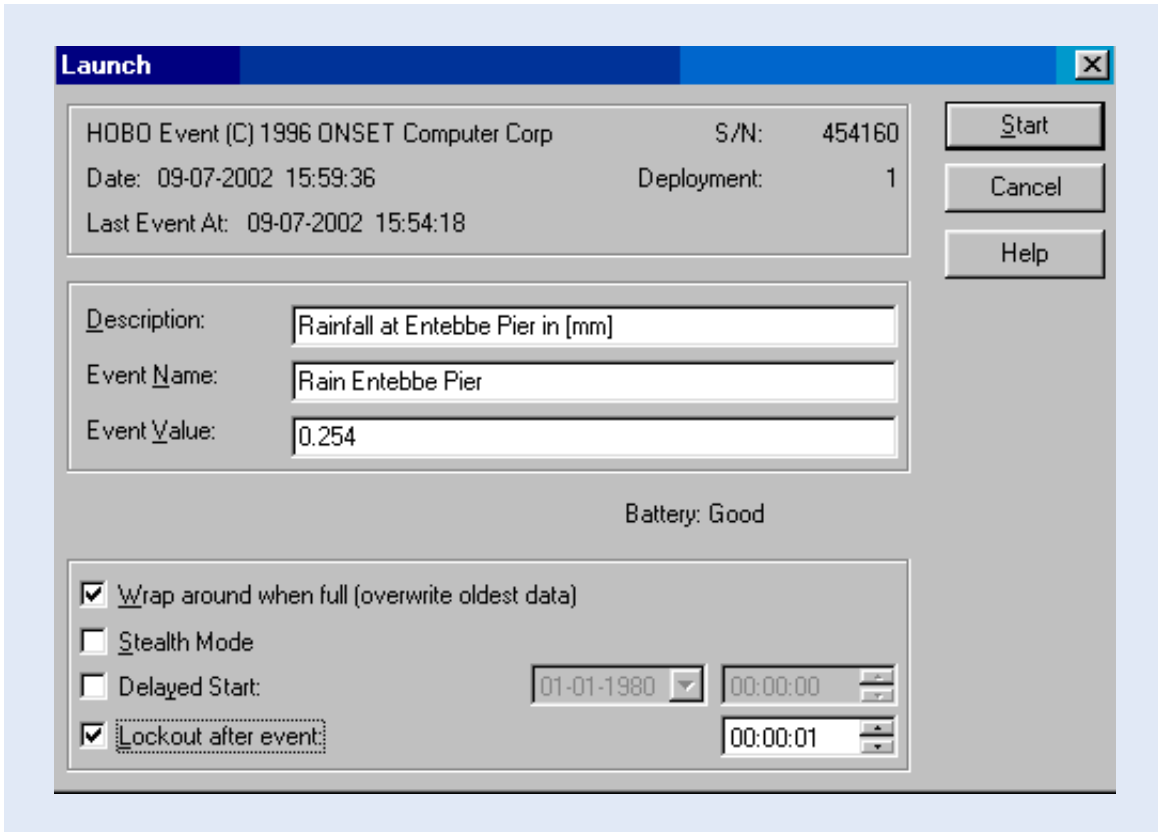

Figure 5: Launch dialog window.
- Start BoxCar Pro and select **Launch** from the **Logger** menu. This displays the launch dialog, as pictured in figure 5.